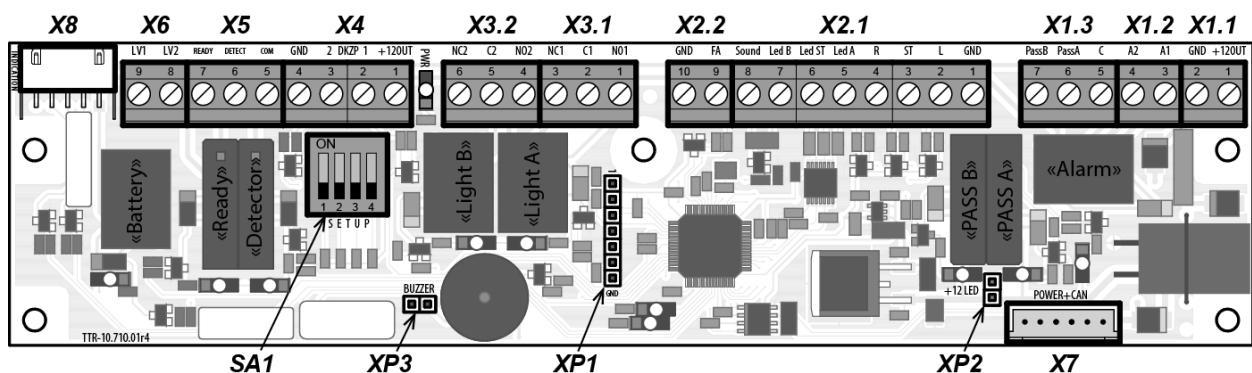

Figure 7. Interface board
The overall view of the interface board (12) (Fig. 7).
The control mode is set either **ON** or **OFF** by **SA1 (SETUP)** switch on the interface board (12). Switch location (Fig. 7). Shift the switch into **ON** position to place the turnstile into pulse mode. Shift the switch into **OFF** position to place the turnstile into potential control mode.